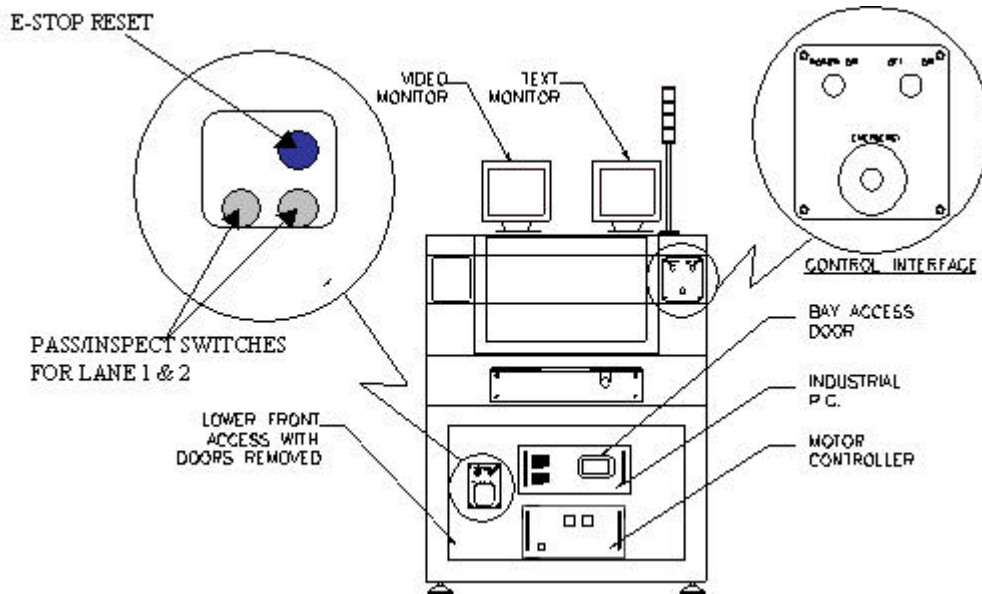

Figure 2.1 Machine Layout
The E-Stop of this machine is clearly visible and identifiable. It is at the front right hand side of the machine and is activated by pushing down on it once. (See Figure 2.1).
10. Depress the emergency stop ‘Reset’ button (See Figure 2.1).